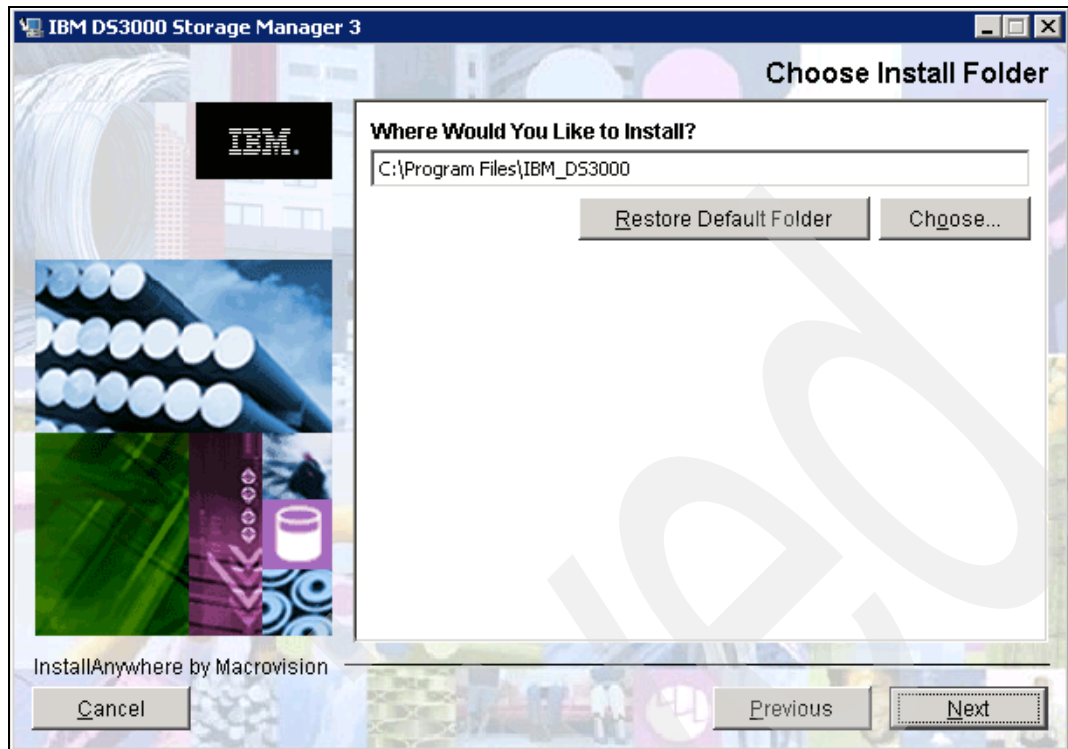

Figure 5-13 Select installation directory
5. If you do not already have Storage Manager installed, you are prompted for the installation directory, as shown in Figure 5-13 on page 63. The default is C:\Program Files\DS3000.